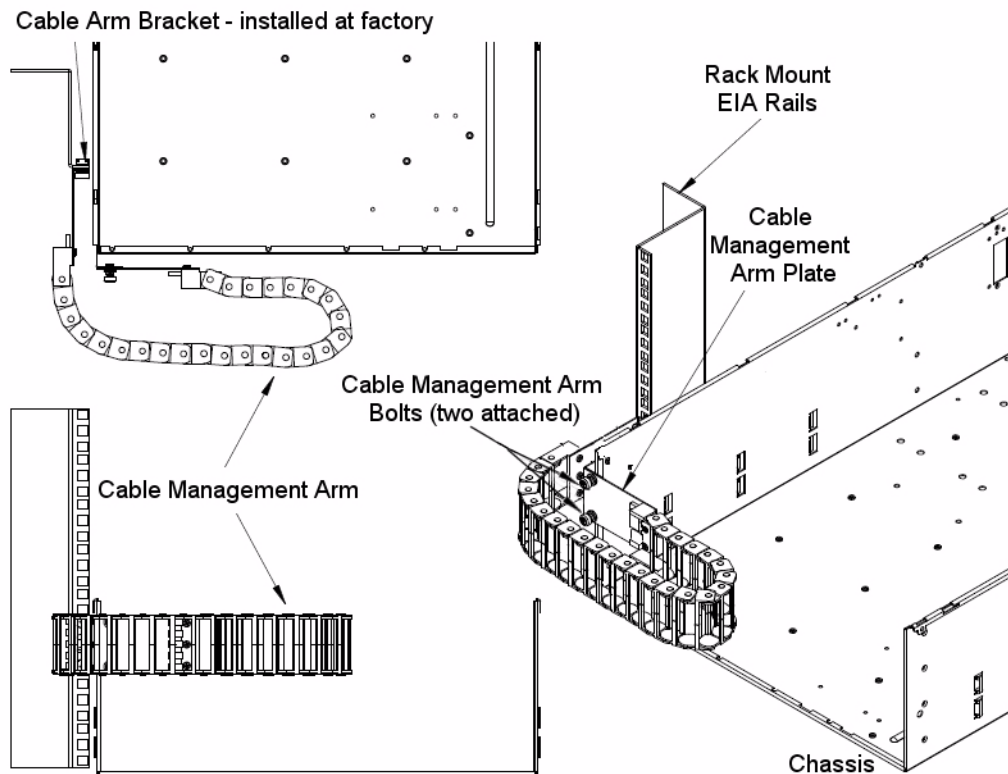

Figure 5-5 Cable Management Arm
The cable management arm is an optional addition to the MIS chassis that helps keep cables organized in the rack. It attaches to a plate on the rear of the MIS chassis and to the rack in which the chassis is mounted. The cable management arm comes in a length designed for 26" deep racks, such as the D-Rack. It can be shortened to accommodate other rack sizes (Figure 5-5).
4. Once complete, slide the arm down the cables until there is enough slack to allow the arm to be bolted into place on the Cable Arm Bracket (Figure 5-5 on page 148).
6. Then, wrap the arm around itself (as in Figure 5-5).